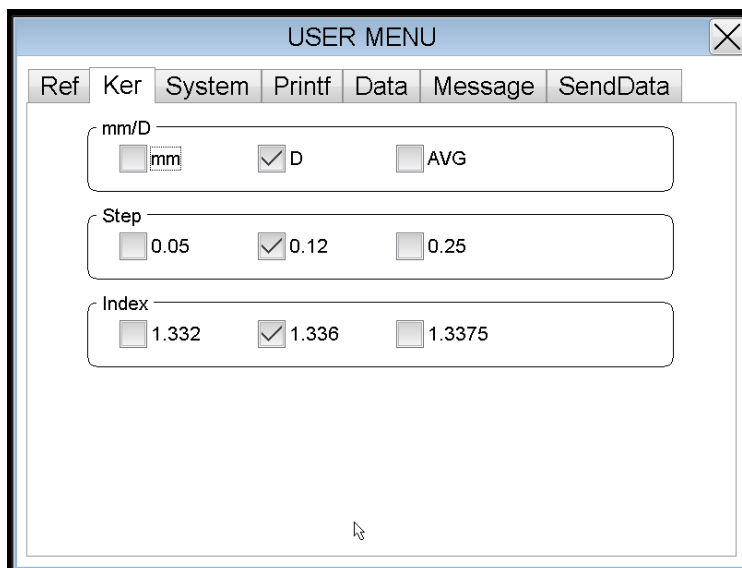

Figure 11
8.1.2 curvature setting (see Figure 11)